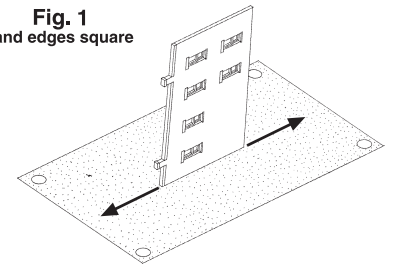

Fig. 2
Wall edges are angled (draft angles) to make removal from mold easier. Draft angles need to be sanded square to allow for proper assembly and a flush fit with adjoining Walls. To square edges, thumbtack a piece of 120-grit sandpaper to a board and draw Wall back and forth evenly on sandpaper until edge is square and level. Edges to be sanded square do not have brick detail and are marked "A" (Fig. 2).
3. Back of Roof rests on Back Wall's alignment pins and sets against underside of Chimneys (Fig. 2). Apply glue to roof from underneath building.